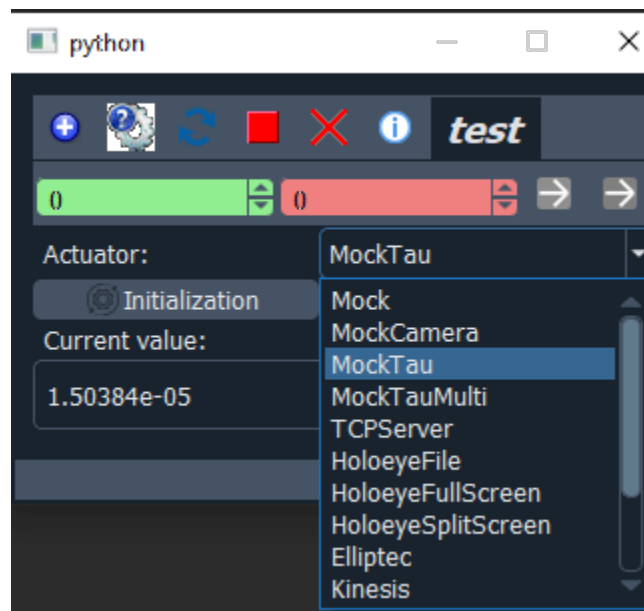

Fig. 7.14: Menu list displaying the available instrument plugin of type DAQ\_Move
- **Actuator:** list of available instrument plugins of the DAQ\_Move type, see Fig. 7.14.